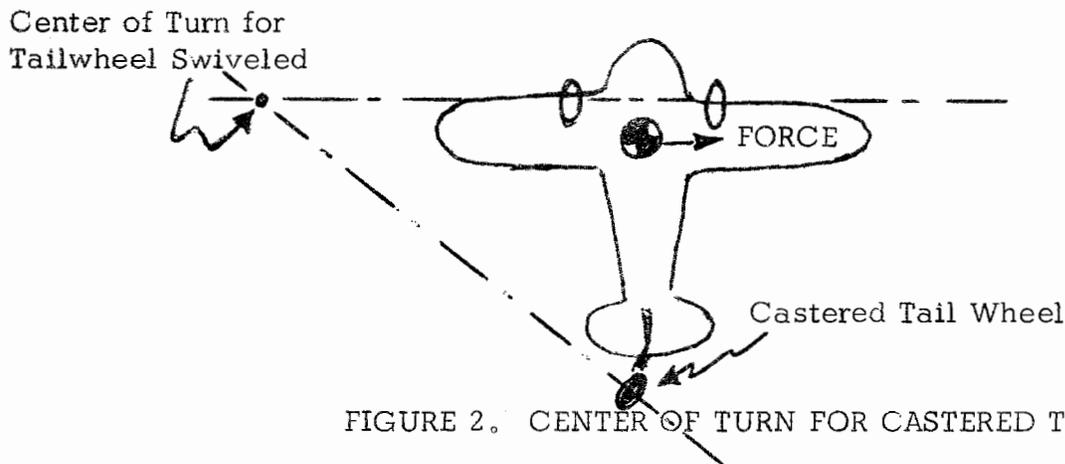

FIGURE 2. CENTER OF TURN FOR CASTERED TAILWHEEL
- (5) Note also that this analysis assumed a locked (non-swivel) tailwheel).
- (6) If the tailwheel has some degree of castering the situation shown in Figure 2 will result. Since the center of gravity (C.G.) of the airplane is behind the main gear any side force will cause a castered tailwheel to swivel. Unfortunately the direction of turn is in such
- (7) As shown in Figure 2, a force to the right causes the castered tail wheel to turn as though the left rudder pedal had been pushed. A new center of turn to the left is established, which causes a centrifugal force to the right. This is the same direction as the original disturbing force (which could be caused by rudder, brake, or other).
- (8) This analysis can be extended in a similar manner to show that airplanes with swiveled tailwheels tend to ground loop if they touch down with a crab angle, while nose wheel airplanes which land with a crab angle tend to turn and stably align themselves with the direction of ground velocity before touch down.